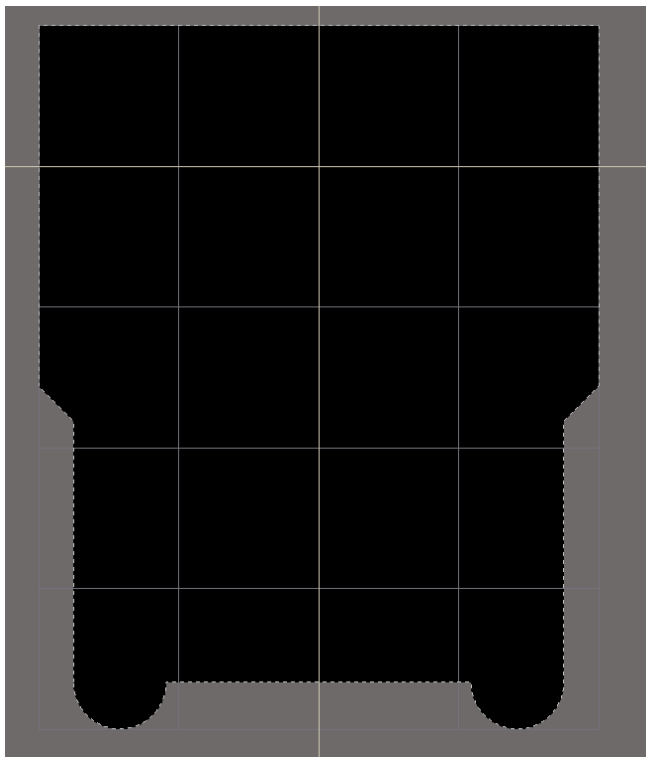

Figure 14. Final Board Shape created from a DXF outline
46. Select **Design » Board Shape » Define from Selected Objects** to create the new board shape as shown in Figure 14.